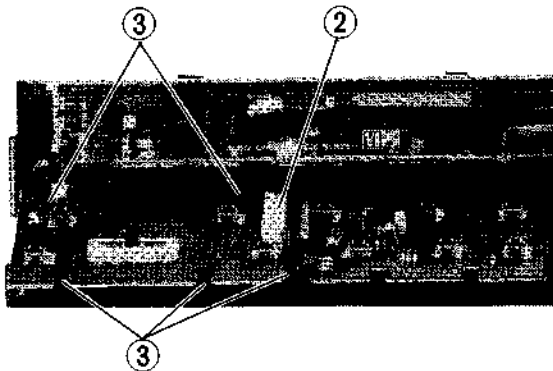

Fig. 2 Operation Switch Circuit Board
2. Operation Switch Circuit Board (Figs. 2 and 4)